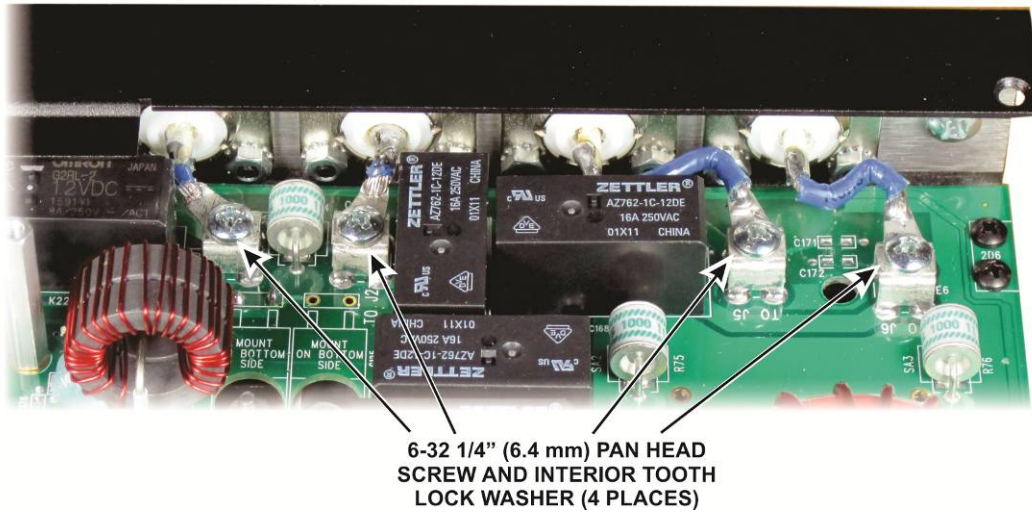

Figure 30. Securing SO-239 Wires to the PC Board Screw Posts.
- Attach the wires leading to each of the SO-239 connectors to the screw posts on the pc board as shown in Figure 30.
- The four screws securing the SO-239 connector leads to the standoffs on the pc board Figure 30, page 46).